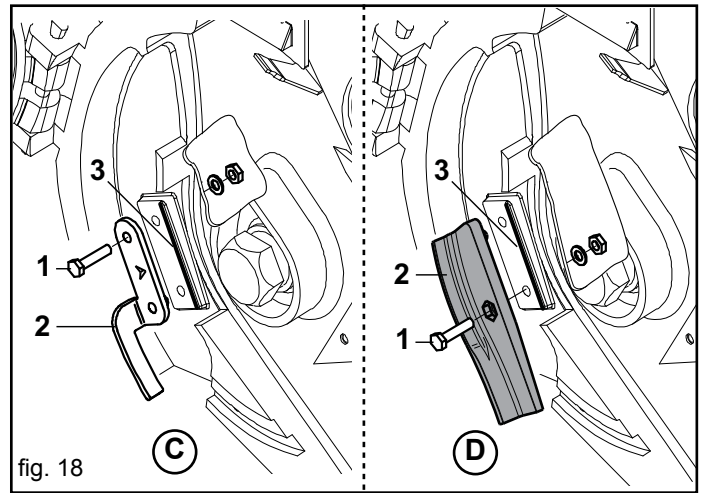

fig. 18
Use the light grey coloured seed expeller (C, Fig. 18) for small size seeds with an average diameter less than 3.5 mm (e.g. pelleted sugar beet seed).
Use the black coloured seed expeller (D, Fig. 18) for medium size seeds with an average diameter from 3.5 to 7 mm (e.g. corn).
Loosen the screws (1, Fig. 18) and remove the expeller (2).
Position the expeller (2) as shown in Figure 18.
keeping the expeller pressed against the edge, obtained in the relative seat (3, Fig. 18), block it by the screw (1) kit. The screw is to be mounted only as shown in the picture. Do not interpose any thickness between the expeller and its seat.